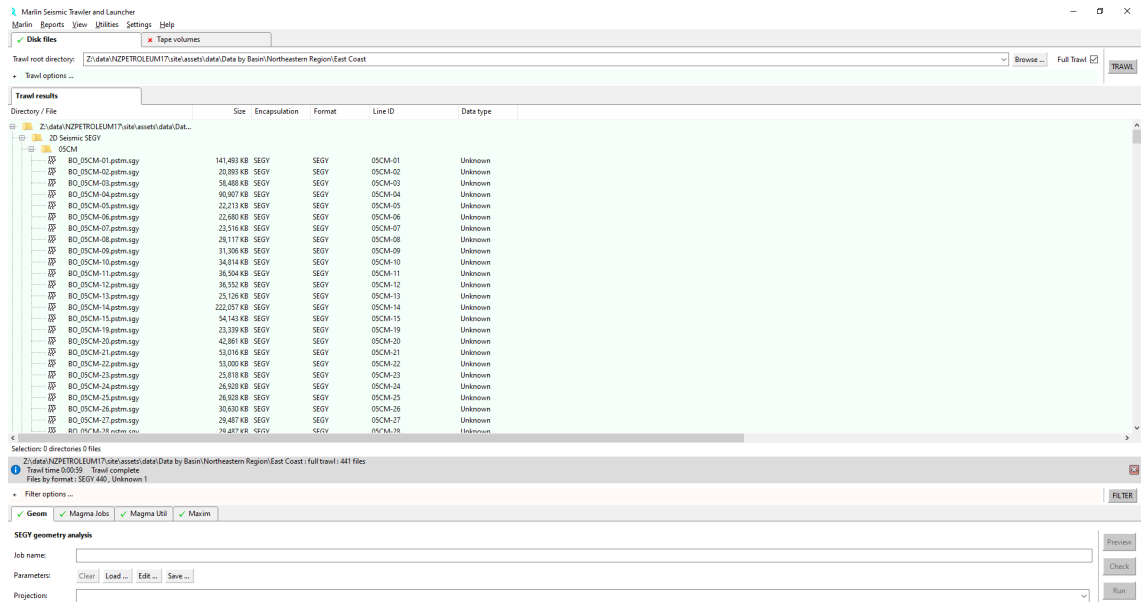

Figure 4-3 Full Trawl Display
2. Click the **TRAWL** button to start the trawl process. Figure 4-3 below shows the results of a full trawl. In Full Trawl mode all directory trees and the file contents are displayed.